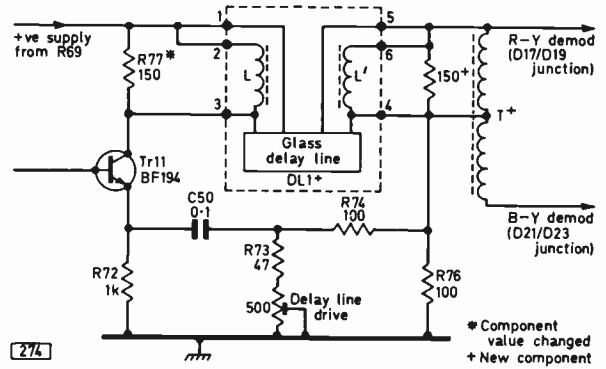

Fig. 7: The earlier delay line type DL1 can be used in the decoder if the circuit is modified as shown above.
- (3) *Total number of articles in the series:* It is neither in our interests nor in the interests of the majority of the readers that the series continue through too many issues of the magazine; although we cannot be definite about the exact availability of magazine space for too far in the future our expectations are that the construction of the receiver (including the cabinet) will be completed in the January 1973 issue. Alignment details, the built-in crosshatch generator, an external degaussing coil and complete servicing data for the receiver will extend over another three issues.
- (4) *The Alignment Service:* An announcement about the start of this service will be made in the next issue. In view of the large number of people now known to be building the set a booking service will have to be operated—to prevent the possible arrival of say 400 i.f. modules on the same day and the inevitable delays that this would cause.
- (5) *Readers on foreign soil and using v.h.f. relay services:* Tuner and other details will be given in the appropriate places for use with Irish v.h.f. services, wired relay systems etc. The alignment of the receiver will differ very slightly for those readers in Europe using System G transmissions and details will be available to those readers at a small charge.
- (6) *Use of the earlier delay line DL1:* A number of readers have asked about using the DL1 line in the decoder because they already have one available or because they can be obtained relatively more cheaply than the DL20 line specified. This can be done if the modified circuit shown in Fig. 7 is used. Those components that are left as they are are marked with their original circuit numbers and values. Those that are changed in value are marked with an asterisk. Components marked with a cross are new. The basic changes are: L10, C51, R78 and R79 are not used in the modified circuit. The value of R77 is changed to 150Ω. The 150Ω resistor at the output of the DL1 is a new component as is transformer T. L and L' are built into the delay line (as L8, L9, L11 and L12 are in the DL20). Transformer T is made on a Ferroxcube former type FX2249 (available from the original suppliers of Component-Pack No. 2) and has 5 turns